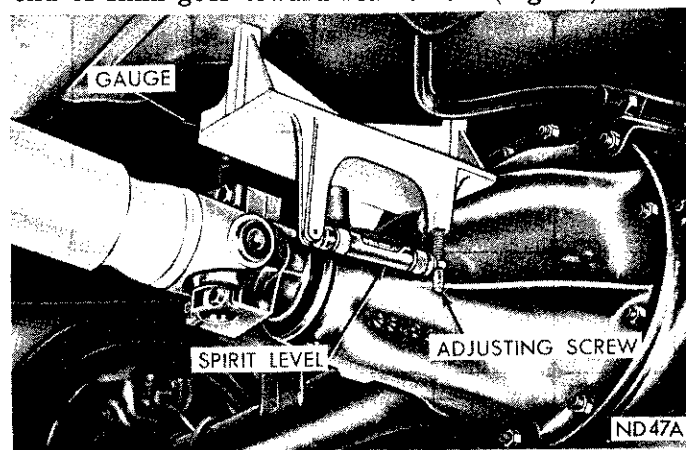

Fig. 9—Adjusting Gauge on Differential (Rear Joint Angle Reference)
(1) Remove pinion bumper plate from differential and carrier housing and position gauge SP-5060 on the machined pads with locating pin in rear bolt hole (Fig. 9).